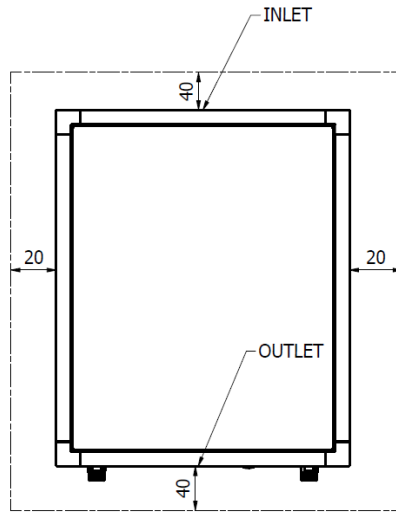
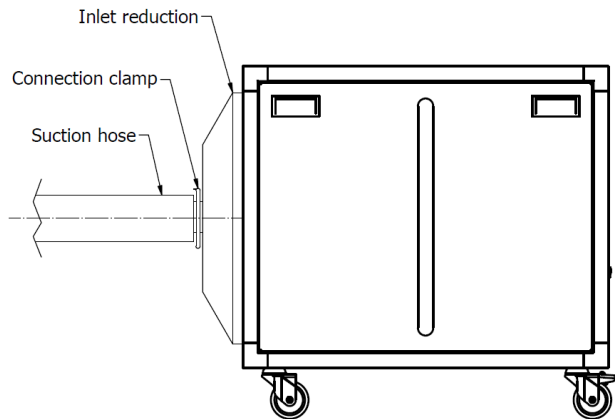

Fig.2. Minimum allowed distance from walls (top view of the device)
Fig. 3. Using the device as a local extraction
- The device should be placed on wheels in the room or in a walkway at the appropriate distance from the walls as shown in Fig. 2. The air purifier should not be placed on its side or in any other position. After using an appropriate stub and a ventilation duct, the device can be used as a local exhaust (Fig. 3).